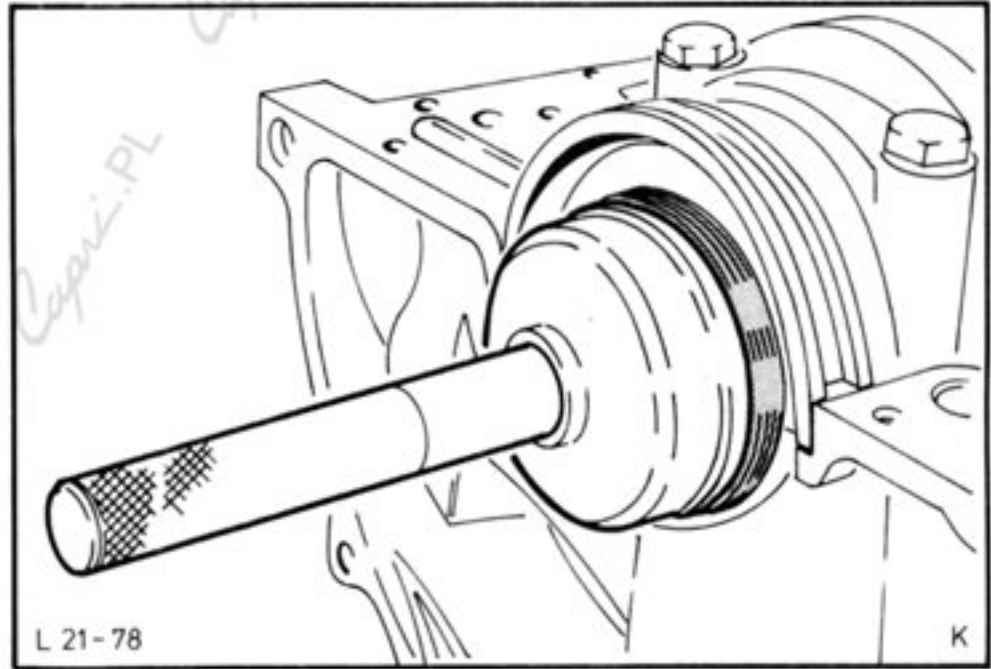

Fig.53. Fit oil seal with Special Tool 21-059.
39. Apply engine oil to sealing lip of new rear oil seal, slide seal onto the Special Tool 21-059 and drive home against the rear main bearing, Fig.53.